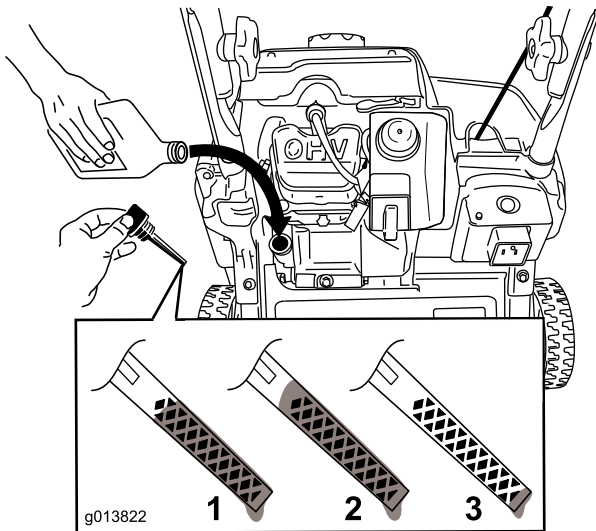

Figure 7
**Note:** To determine the proper oil level on the dipstick, refer to Figure 7.
**Note:** Fill the engine crankcase with oil until the dipstick indicates that the engine-oil level is correct as shown in Figure 7. If you overfill the engine with oil, remove the excess oil as directed in (page ).